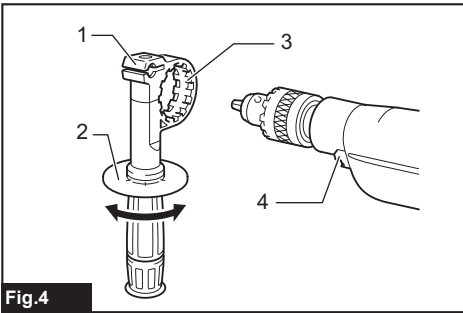

Fig.4
- Fig.4: 1. Grip base 2. Side grip (auxiliary handle) 3. Teeth 4. Protrusion